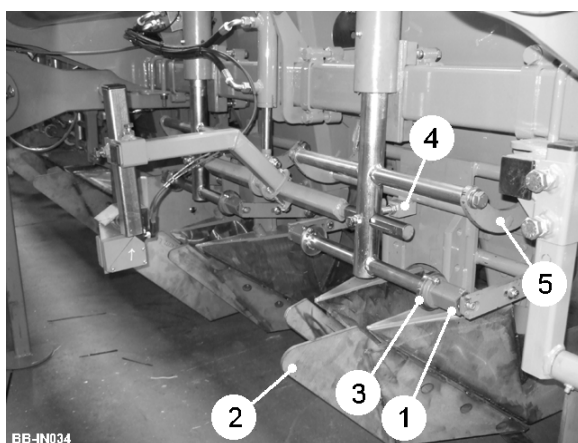

Fig 3
Rubber torsion springs (item 1, fig 3) allow the openers (item 2, fig 3) to ride over obstructions reducing damage to the planter and also carry the weight of the openers and prevent them from 'nose diving' in soft soil. To adjust the pressure, reposition the spring mounting bolts into a different hole in the support frame end plate (item 3, fig 3). The adjuster bolt (item 4, fig 3) limits the amount the opener can travel on the parallel linkage arms (item 5, fig 3).